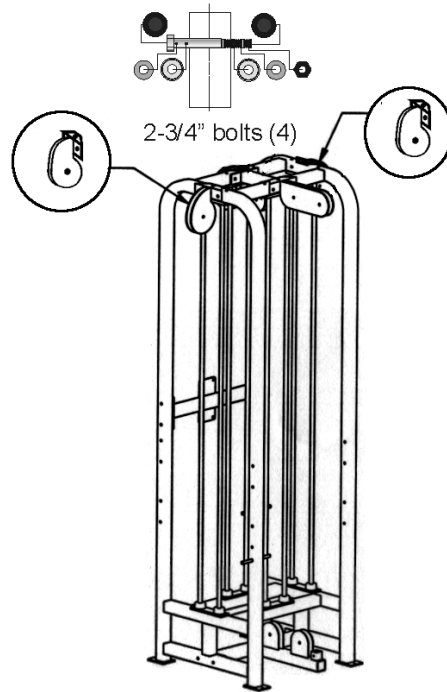
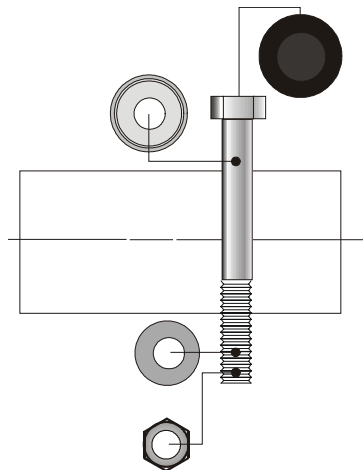

Figure 4. Bolt on the teardrop pulleys.
Figure 5. Configuration for 6" bolts.
2. **Bolt on the teardrop pulleys above the benches** (see Figure 4) on both cubes using two 3/8" x 2-3/4" hex head bolts (used to bolt the cross beam to the cross members and the adjustable pulley tops to the top beams). Include the 3/8" flat washer, end cap washers, end caps and 3/8" Nyloc (locknut). Use the bolt configuration shown in Figure 5. You may wish to use a pinch bar to align the bolt holes.
Hardware Figure 4. Top assemblies.
Hardware Figure 5. Weight stack rubber bumpers.